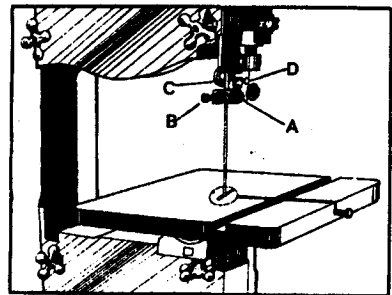

Fig. 21
The upper blade guides (A) Fig. 21. are held in place by means of the set screws (B). Loosen the set screws (B) to move the guides (A) as close as possible to the side of the blade, being careful not to pinch the blade. Then tighten the knob screw (B).
The upper blade support bearing (C) Fig. 21. prevents the blade from being pushed too far to the back which could damage the set in the saw teeth. The support bearing (C) should be set $1/64"$ (0.4m/m) behind the blade by loosening screw (D) to move the support bearing (C) in or out. The blade support bearing (C) should also be adjusted so the back edge of the blade overlaps the outside diameter of the ball bearing by about $1/16"$ (1.6m/m). The bearing (C) is set on an eccentric and to change position remove screw (D) and bearing (C) Fig. 21. Loosen screw (D) and reposition shaft that bearing (C) is attached to.